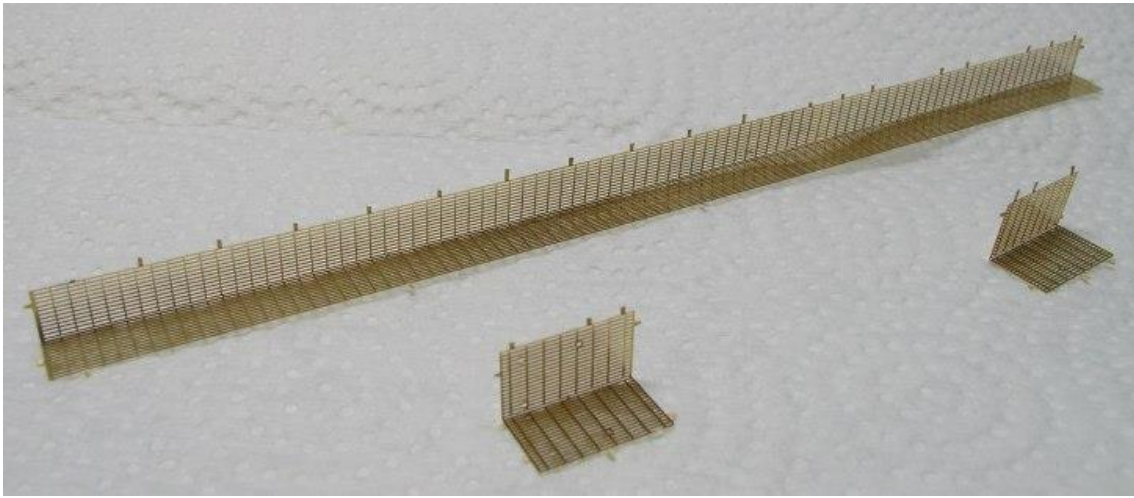

Figure SRB1a
1. The steel running boards are in two pieces joined that must be folded to create 0.016" (1 scale inch) running boards. See Figures SRB1a and SRB1b.